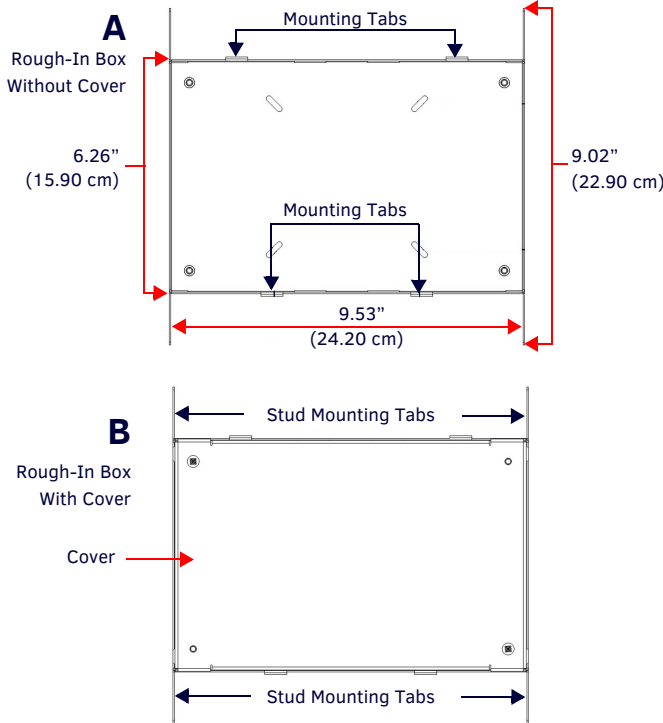

FIG. 1 CB-MSA-10 ROUGH-IN BOX - WITH FRONT COVER
- Remove the rough-in box cover (**B** in FIG. 1) before installation of the rough-in box (**A**). *note: the cover must be removed before drywall installation. The cover may be reinstalled after drywall installation using 4-40 screws (not included).*
NOTE: The front cover of the CB-MSA-10 (**B** in FIG. 1) should be installed after the appropriate wiring is pulled to the Rough-In Box. The cover should then be removed prior to the installation of the touch panel back box and discarded.